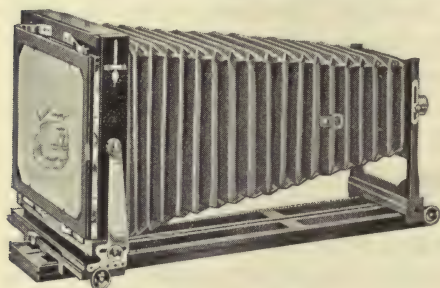

FIG. 134.—A camera.
**The camera.**—A camera (Fig. 134) is a light-tight box containing a movable convex lens at one end and a screen at the